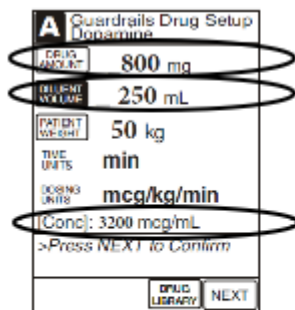

Figure 2. PC unit programming screen
- 800 in the “DRUG AMOUNT” field (Figure 2)
- 250 in the “DILUENT VOLUME” field (Figure 2), which would then lead to the next programming screen to enter the dose.